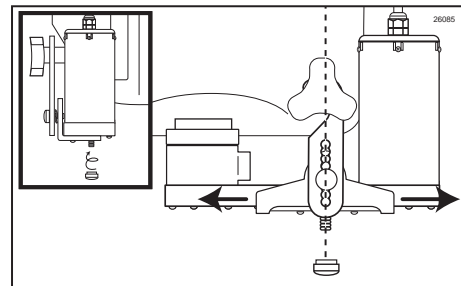

Figure 139
4. Use the Gear Box thumb nut to adjust the Suspension Bracket horizontally so that it hangs straight down from the door nut. (See Figure 139.)